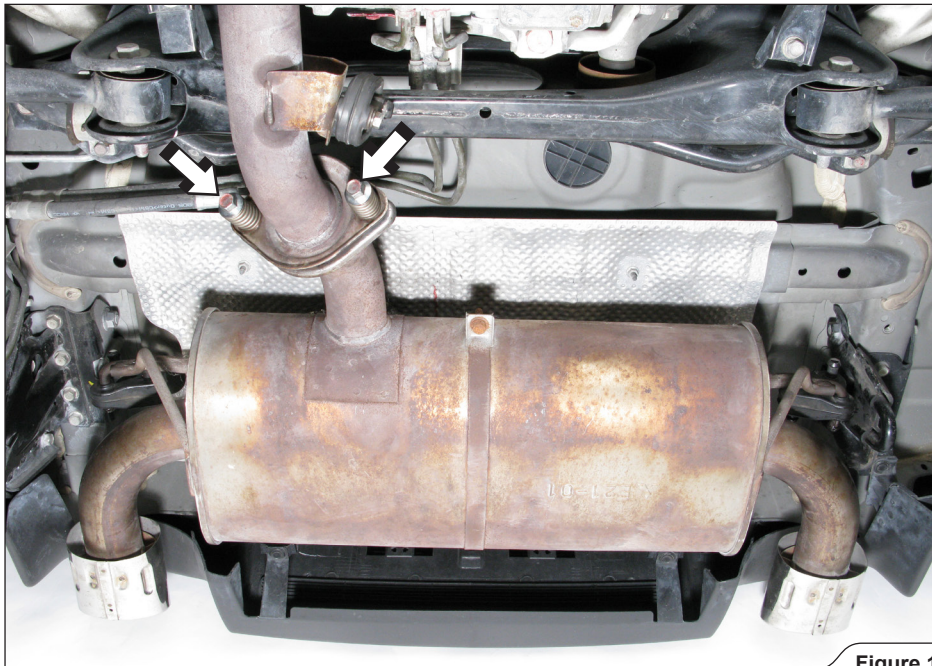

Figure 1
1. **For Slip-On and Evolution:** unscrew the marked bolts (Figure 1).